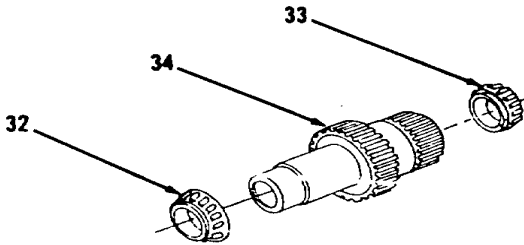

Figure 14-8.
- 33. Using a puller assembly, ratchet box wrench, bearing pulling attachment and drive plate, remove roller bearings (32 and 33) from input gear (34, Figure 14-8).